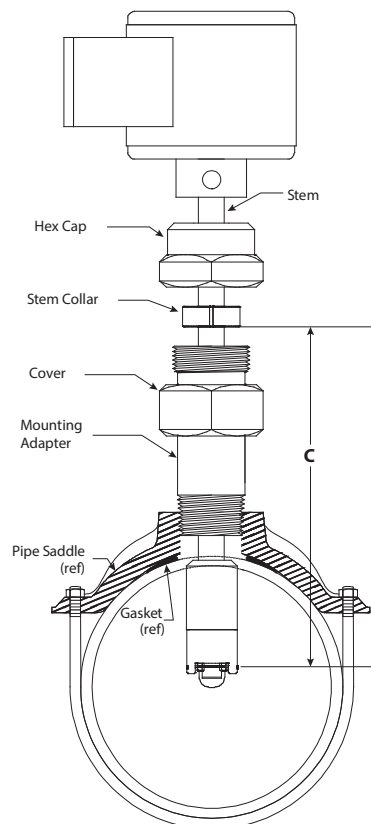

Figure 6: Dimension C
- c. Add this number to the reference measurement. The resulting number is dimension C in Figure 6